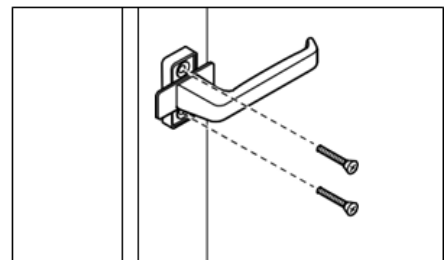

Figure 4-5. Where to install the mounting screws
- 2.4 Lock position: rotate the Euro-Handle to the horizontal Turn position. This gives you access to both of the screw holes. See fig. 4-5. Insert the screws that came with the handle and tighten them. See fig. 4-5. Go to step 2.7.
- 2.6 Turn position: insert the screws supplied and tighten them. See fig. 4-5.